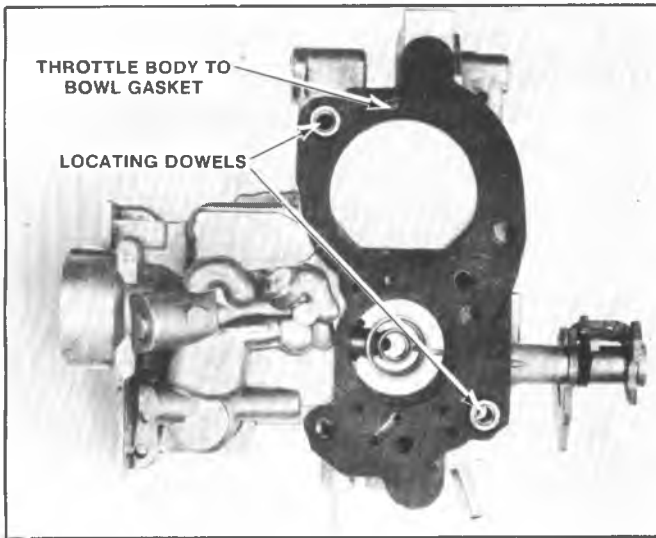

Fig. 6C2-37--Throttle Body to Bowl Gasket
NOTICE: If a new float bowl assembly is used, stamp or engrave the model number on the new float bowl (see Fig. 6C2-4).
1. Install new throttle body to bowl insulator gasket over two locating dowels on bowl (Fig. 6C2-37).
2. Holding fast idle cam so that cam steps face fast idle screw on throttle lever when properly installed, install throttle body making certain throttle body is properly located over dowels on float bowl; then install (4) throttle body to bowl screws and lockwashers and tighten securely (Fig. 6C2-33).